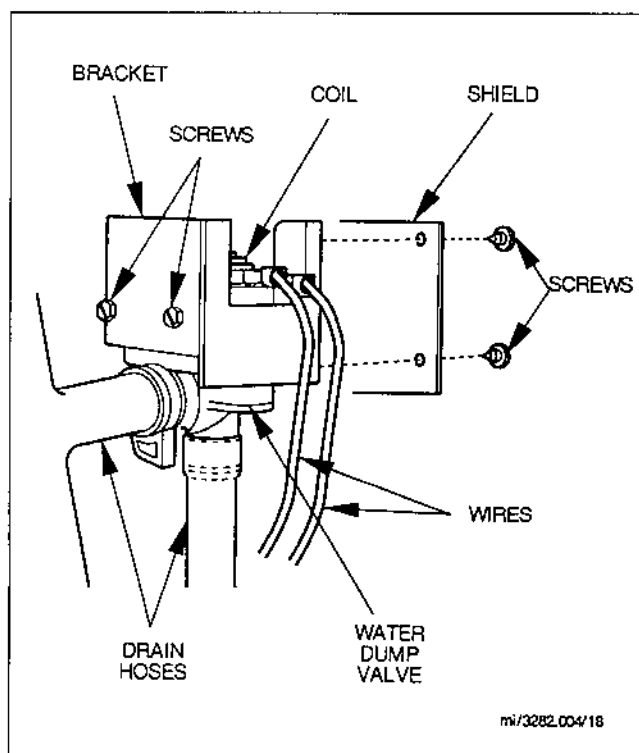

FIGURE 18. WATER DUMP VALVE REMOVAL
3. Check clear plastic outlet drain hose of dump valve, Figure 18, for leakage while the ice machine is in the freeze mode.
Remove Water Dump Valve (Figure 18)